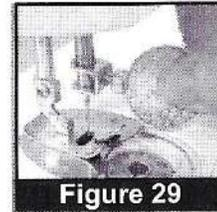

Figure 29
2. Hold the old needle with one hand while loosening the needle clamp screw with the other. When the needle is loose, remove it from its clamp. (Figure 29)